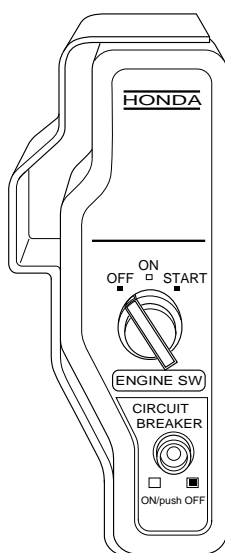

Figure 20 - Engine Switch In OFF Position
3. Turn engine switch to the OFF position (see Figure 20).